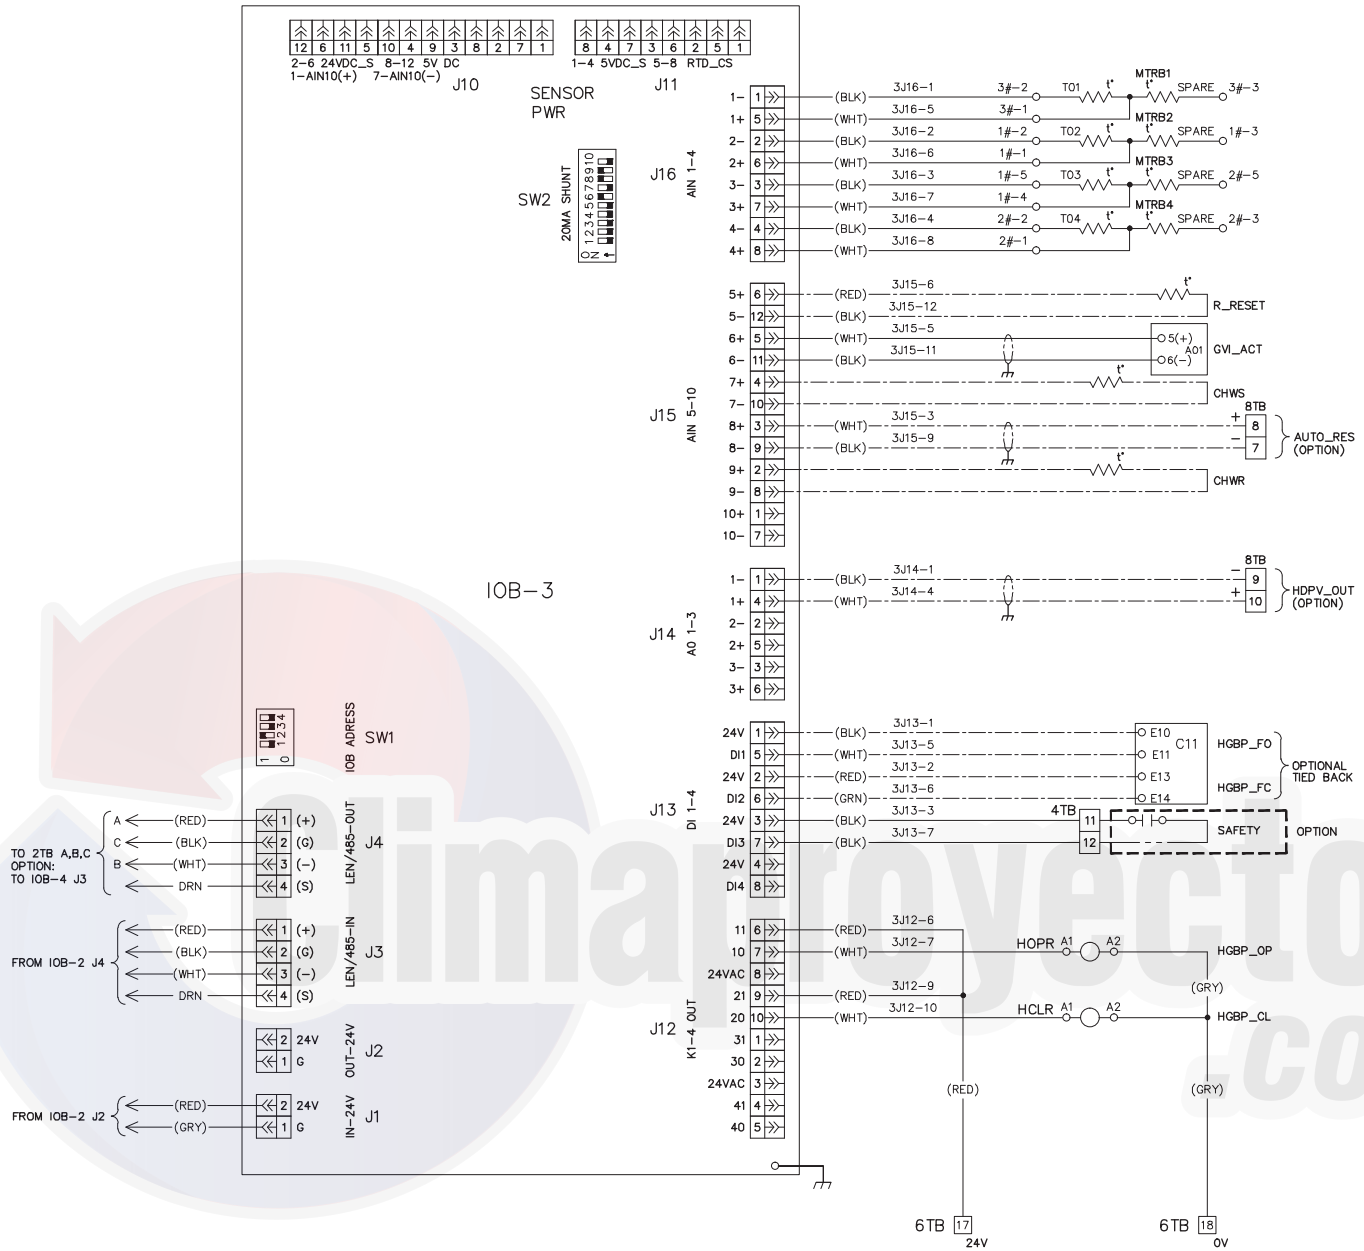

Fig. 4 — IOB 3
1. See Fig. 4 for IOB3 wiring diagram.
2. For pressure readings, only Vout (output) terminal is indicated. See Fig. 4 for Vin (+) and ground (-).